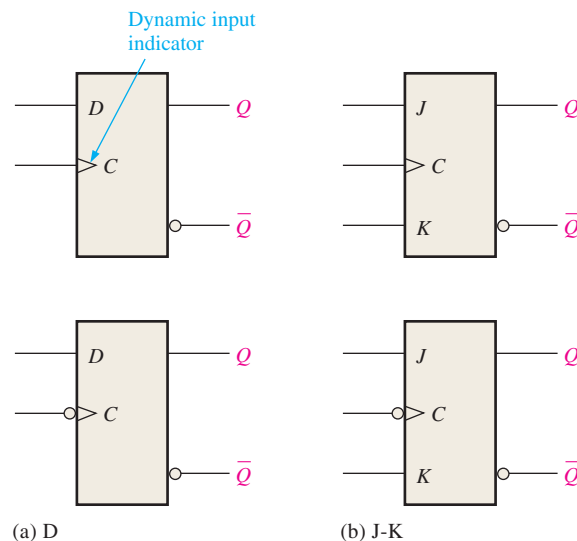

FIGURE 7-13 Edge-triggered flip-flop logic symbols (top: positive edge-triggered; bottom: negative edge-triggered).
An **edge-triggered flip-flop** changes state either at the positive edge (rising edge) or at the negative edge (falling edge) of the clock pulse and is sensitive to its inputs only at this transition of the clock. Two types of edge-triggered flip-flops are covered in this section: D and J-K. The logic symbols for these flip-flops are shown in Figure 7-13. Notice that each type can be either positive edge-triggered (no bubble at C input) or negative edge-triggered (bubble at C input). The key to identifying an edge-triggered flip-flop by its logic symbol is the small triangle inside the block at the clock (C) input. This triangle is called the *dynamic input indicator*: